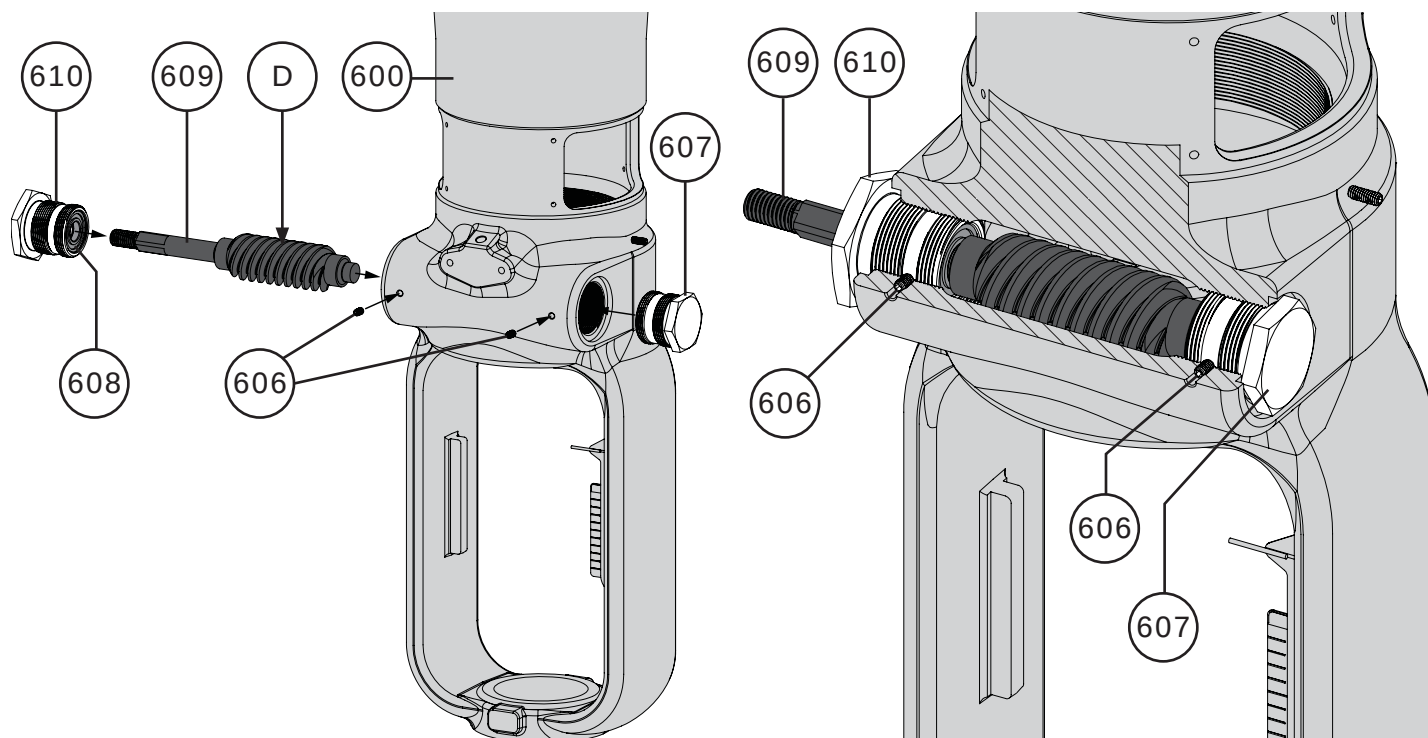

Figure 87 Worm Shaft Installation
- 2 Install the back retainer flange/ball bearing assembly (Keys 607 & 608) into the yoke (Key 600) and align the slot in the retainer with the set screw (Key 606). Tighten the set screw into the retainer to lock it in place. Refer to Figure 87.
- 4 Install the front worm shaft retainer (Key 610) over the worm shaft (Key 609) and thread it into the yoke (Key 600) as shown in Figure 87. Align the slot in the retainer with the set screw (Key 606) and tighten the set screw into the retainer locking it in place.